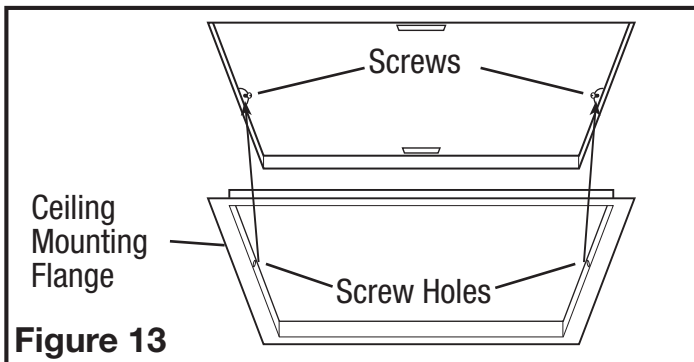

Figure 13
NOTE: If the mounting flange is installed on the fan housing, remove the two screws that connect the ceiling mounting flange to the housing and set aside (Figure 13).
5. Install the ceiling mounting flange to cover any gaps which exist between the housing and the finished ceiling. Remove the two screws that connect the ceiling mounting flange to the housing. Put sealant (not provided) on inside edge of the ceiling mounting flange to ensure that the flange is sealed to the ceiling. Line up the screw holes in the ceiling mounting flange with the screw holes on the inside of the housing and press flange in place so it is tight against the ceiling. Reinstall ceiling flange mounting screws inside the housing (**Figure 13**).